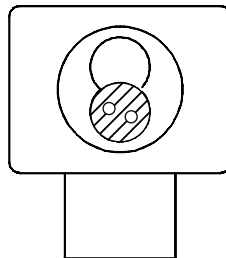

Fig. 4a - Front of drawer lock with prong driver in correct orientation.
STEP 7 - Insert the black plastic actuator and turn until the bolt is completely extended and the prongs are just past horizontal as in Fig 4a.